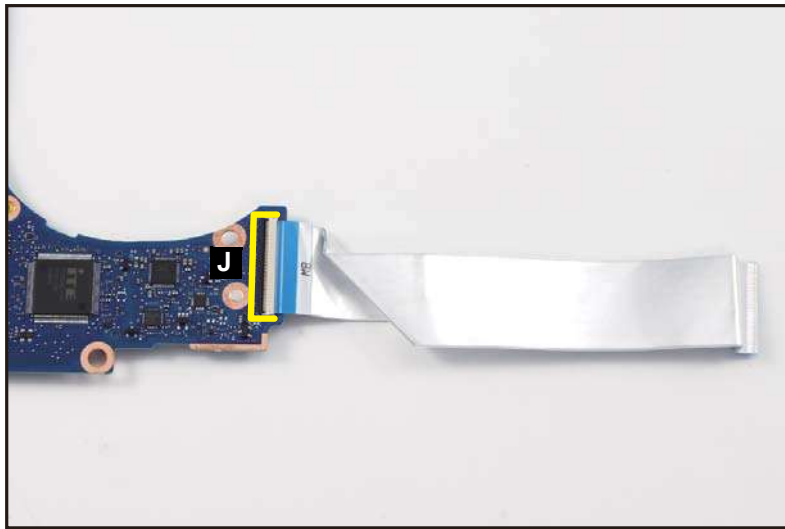

Figure 3-41. Mainboard Removal
10. Flip the mainboard and disconnect the DB FFC from the mainboard connector (J) (Figure 3-41). Then remove the FFC.